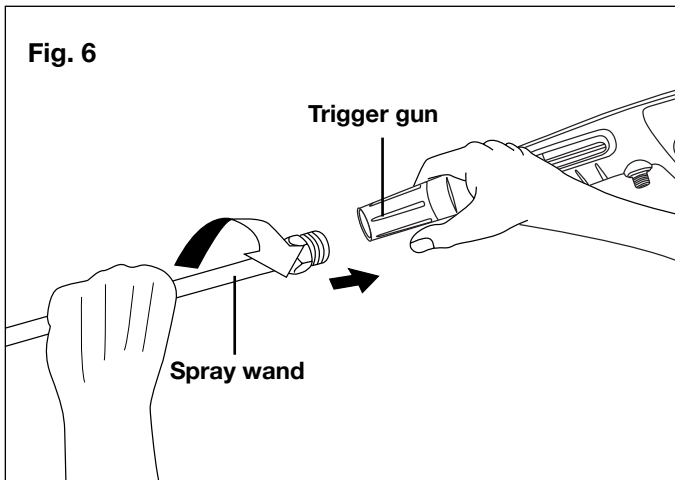

Fig. 6
6. Fit the spray wand into the trigger gun and rotate it until the two parts are completely locked (Fig. 6).